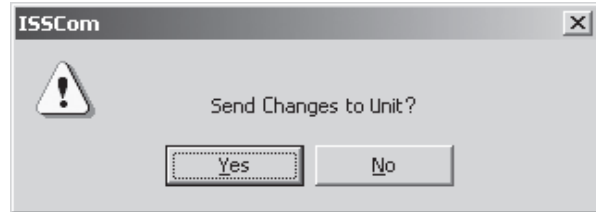

Figure 4-19 Sequence of Events Send Changes to Unit Screen
2. Select the desired Inputs and Outputs, then select **Save**. ISScom will display a Send Changes to Unit Screen (Figure 4-19).